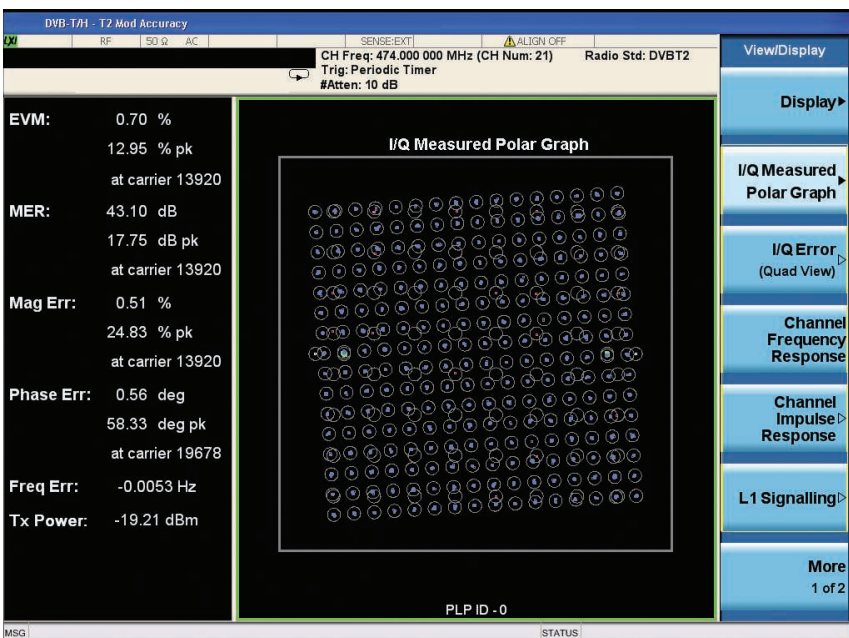

Figure 25. I/Q measured polar graph view
- **I/Q measured polar graph** view (Figure 25): A view of I/Q measured data of the specified sub-carriers and PLP index.
View the I/Q measured polar graph results (Figure 25)	[View/Display] {IQ Measured Polar Graph}